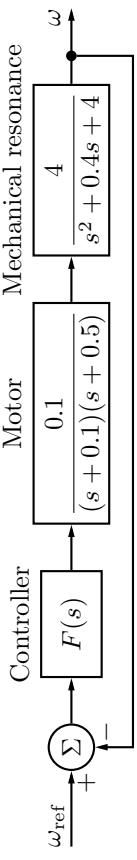

Figure 5.1a
5.1 The block diagram for speed control of a DC-motor is shown in Figure 5.1a.